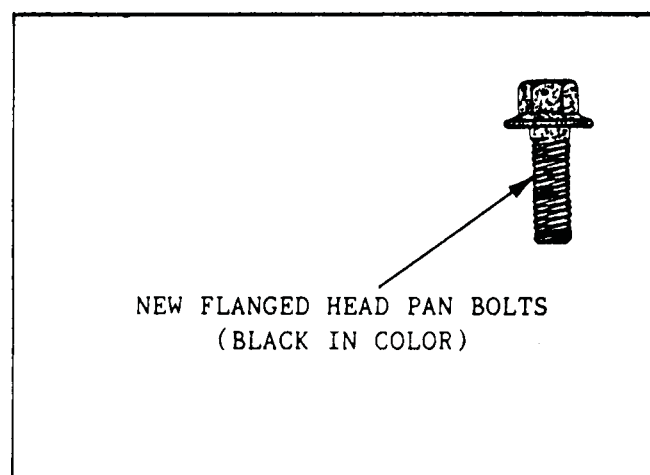

Figure 127
7. Install 17, 10mm pan bolts, and notice that they are flanged head and black in color (See Figure 127).